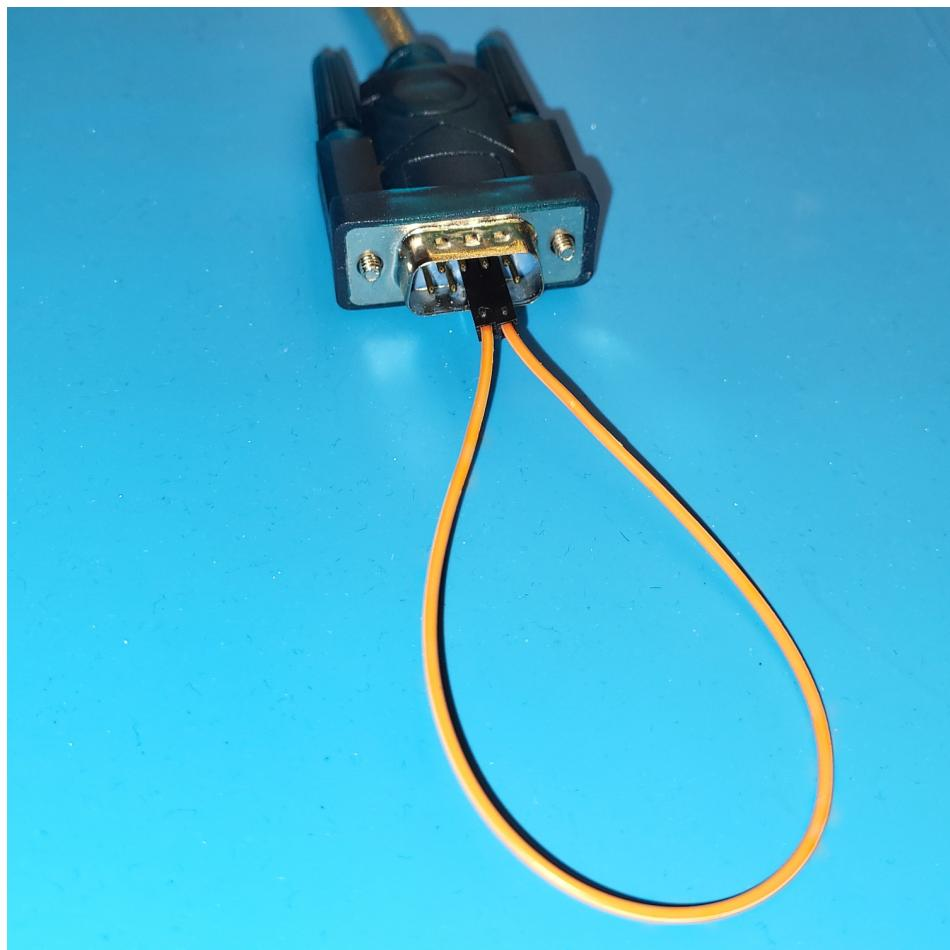

Figure 55: Loopback test with a USB-to-serial adapter
**Troubleshooting** If it doesn’t work, test the hardware starting from the computer’s end. First, pull the serial cable from the board and instead connect Pins 2 and 3 with a jumper cable as shown in Figure 55. Now, the terminal should echo ever letter verbatim. If it doesn’t, check whether you have opened the right serial port. On Windows, they are called COM? and on Linux either /dev/ttyS? or /dev/ttyUSB? with the ‘?’ being replaced by a number. Try going through the numbers until you find the right one.